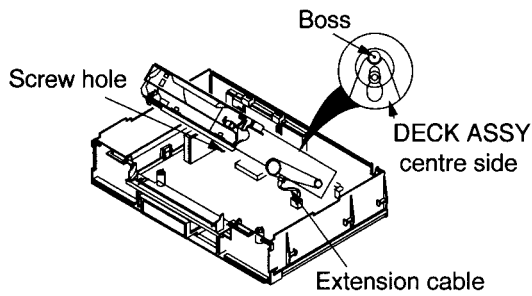

Fig. 1
2. Place the DECK ASSY on the Base Chassis so that the centre of the rear side aligns with the boss and that the rear side of the supply side aligns with the screw hole as shown in Fig. 1. Raise the front side of the DECK ASSY and hold it with a support.